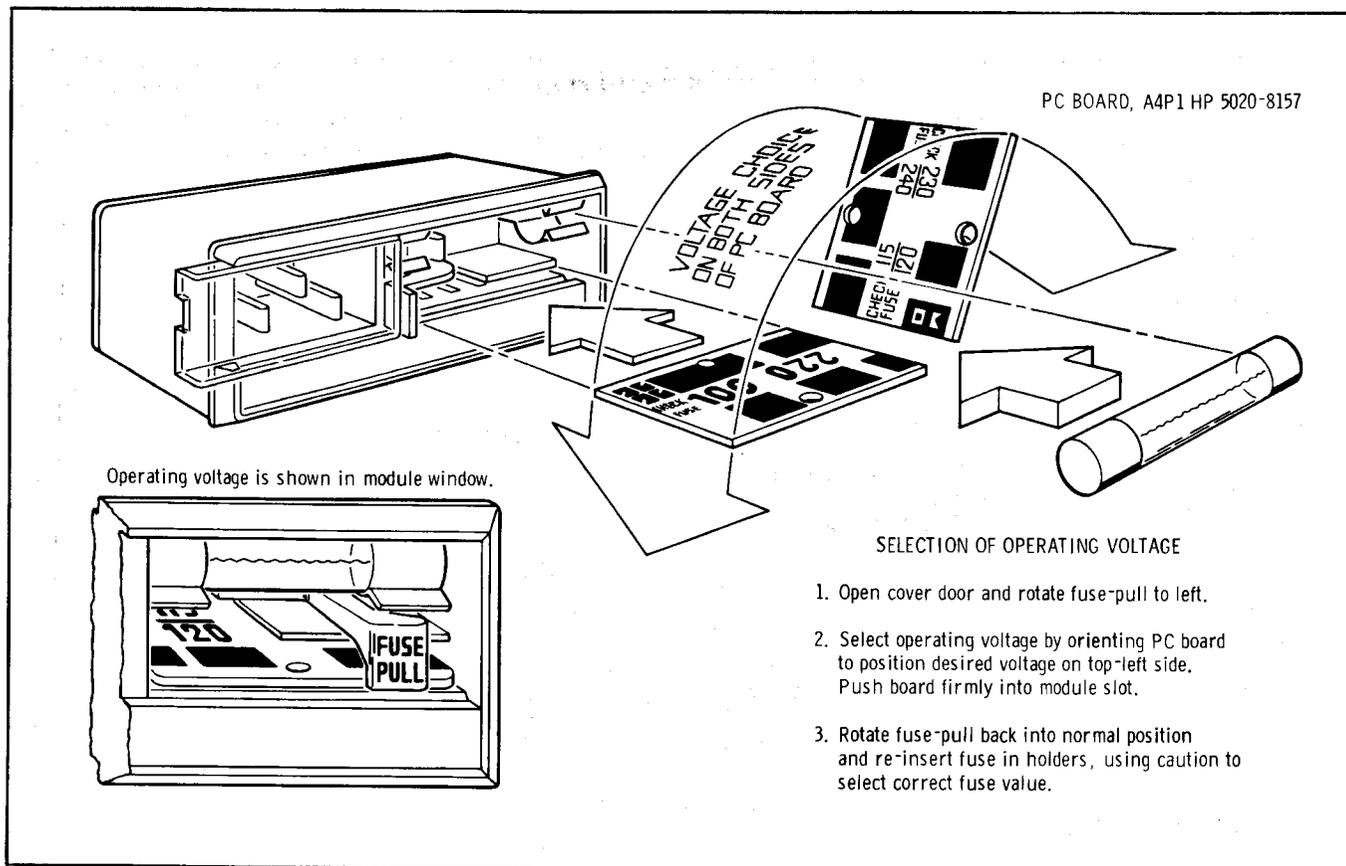

Figure 3. Line Voltage Selection
19. Figure 3 provides instruction for line voltage and fuse selection. The Line Voltage Selection Card and fuse are factory installed for 120 Vac operation.
b. Maintenance by the operator consists of changing the fuse (refer to Figure 3), and Line switch lamp replacement (refer to Figure 5).
- 9** **Line Voltage Selection Card.** Matches transformer primary to line voltage. Refer to Figure 3.
- a. Verify that the power transformer primary of the 11683A is matched to the line voltage. See Figure 3.
- b. Check the fuse, contained in the Power Module Assembly, for the correct rating. The voltage and amperage are shown on the rear panel. If necessary, change the fuse. See Figure 3.